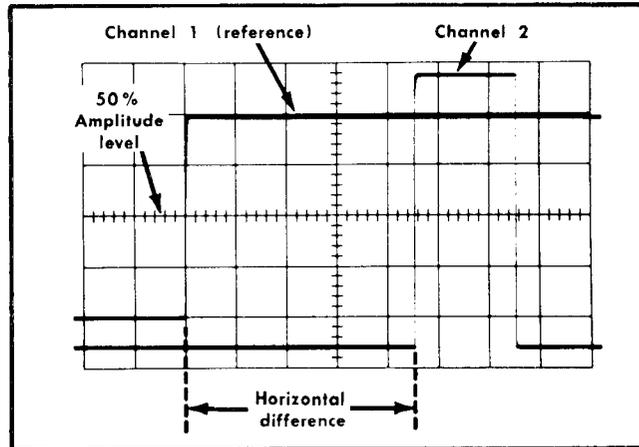

Fig. 2-19. Measuring time difference between two pulses.
11. Measure the horizontal difference between the Channel 1 waveform and the Channel 2 waveform (see Fig. 2-19).
Example. Assume that the TIME/DIV switch is set to 50 μs, the MAG switch to X10 and the horizontal difference between waveforms is 4.5 divisions (see Fig. 2-19).